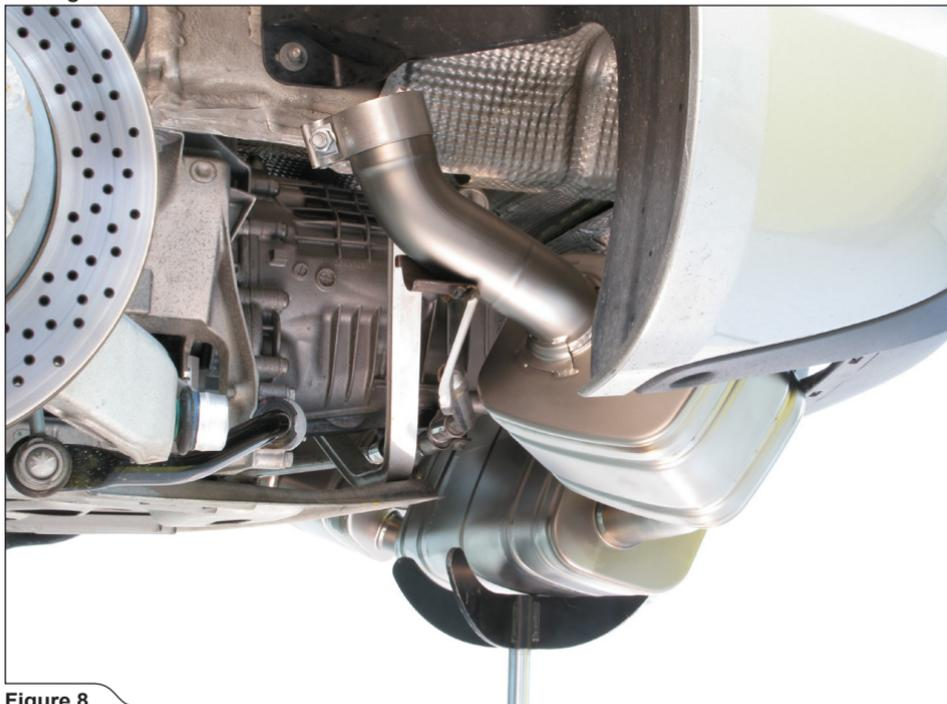

Figure 8
- Carefully bring the muffler near it's final position on the vehicle, as shown (**Figure 8**).